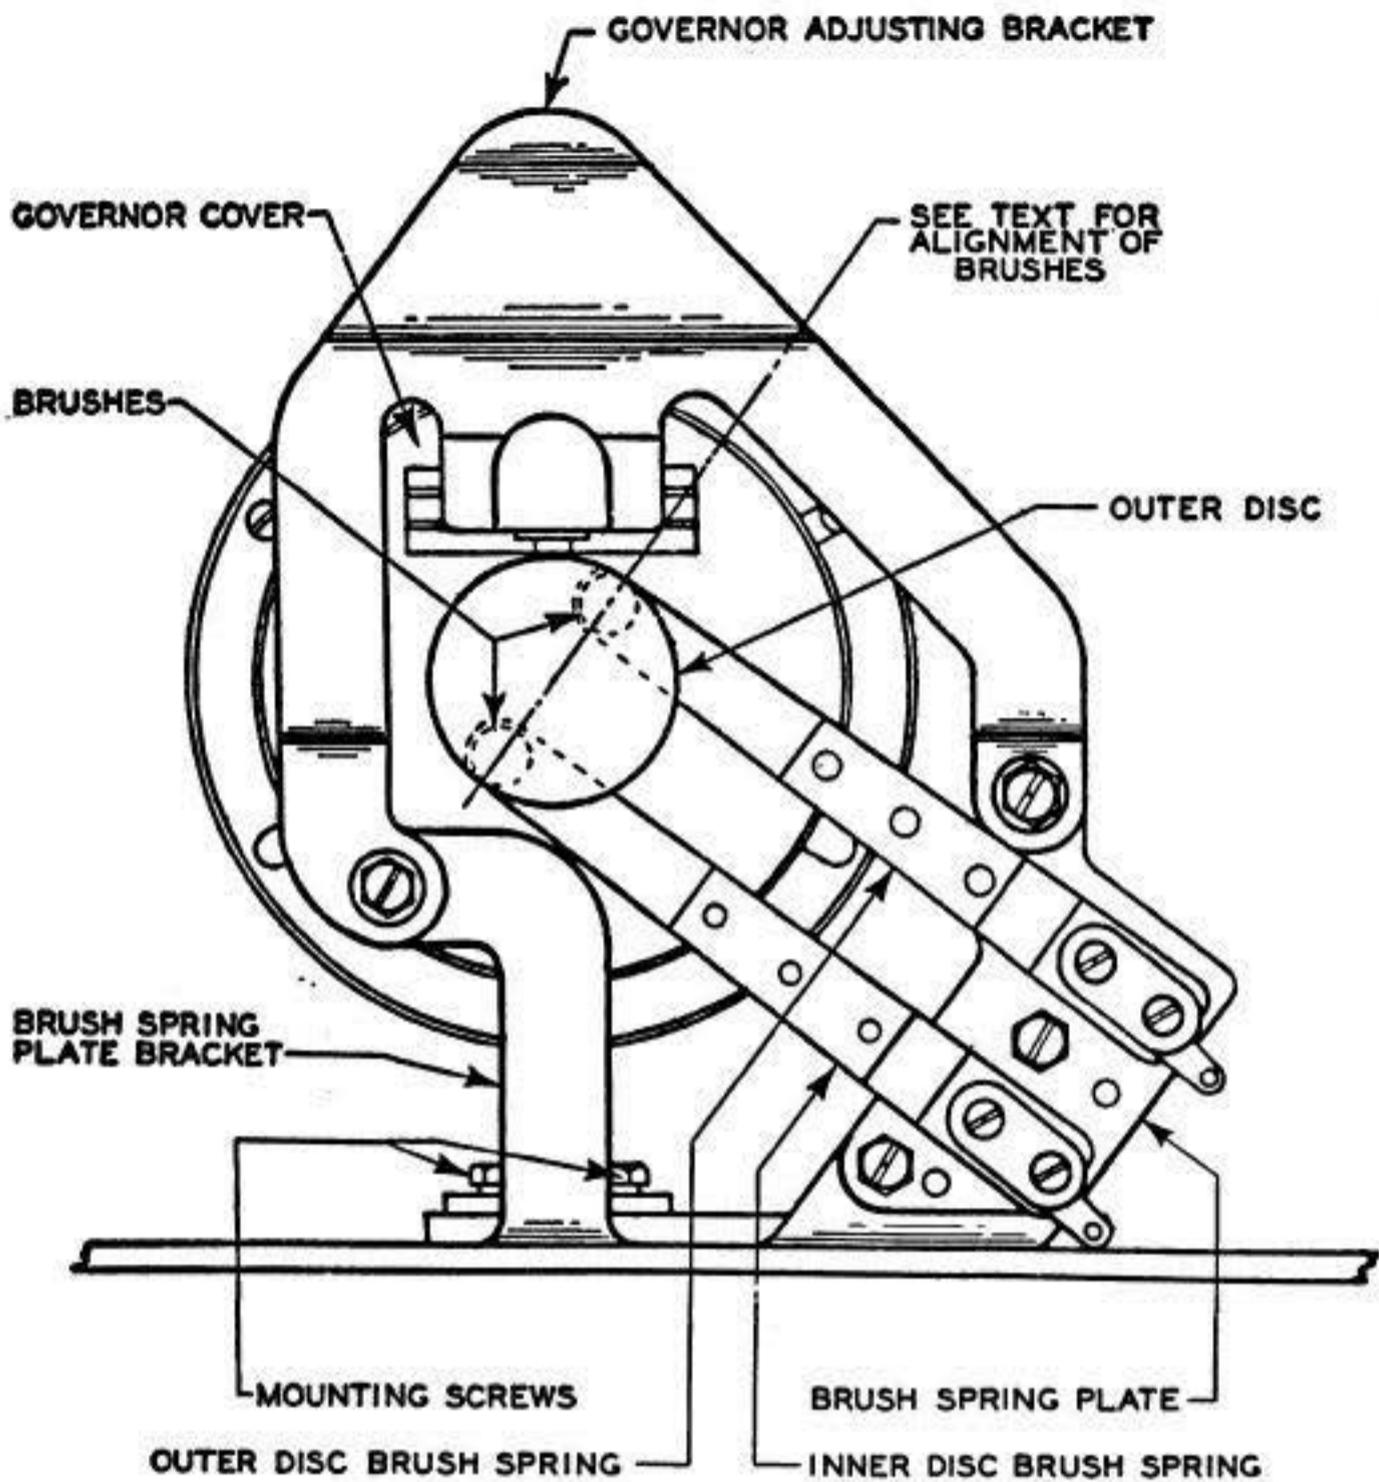

Fig. 11
4.14 **Governor-Brush Alignment:** The outer edge of the brushes should be within 3/64" of the outer edge of the discs throughout one revolution of the governor and a line established by the center of the outer disc and the center of one of the brushes should pass through some portion of the other brush. **Fig. 11**